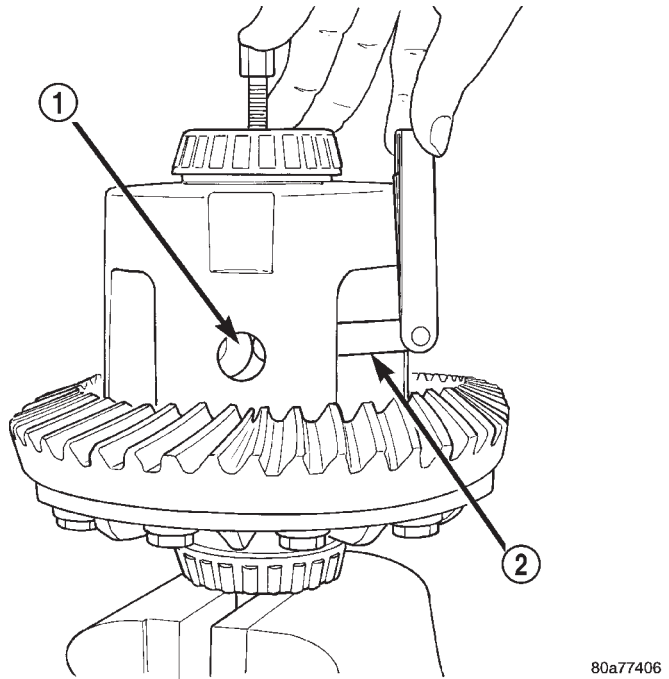

Fig. 45 Remove Pinion Thrust Washer
(10) Using an appropriate size feeler gauge, remove thrust washers from behind the differential pinions (Fig. 45).